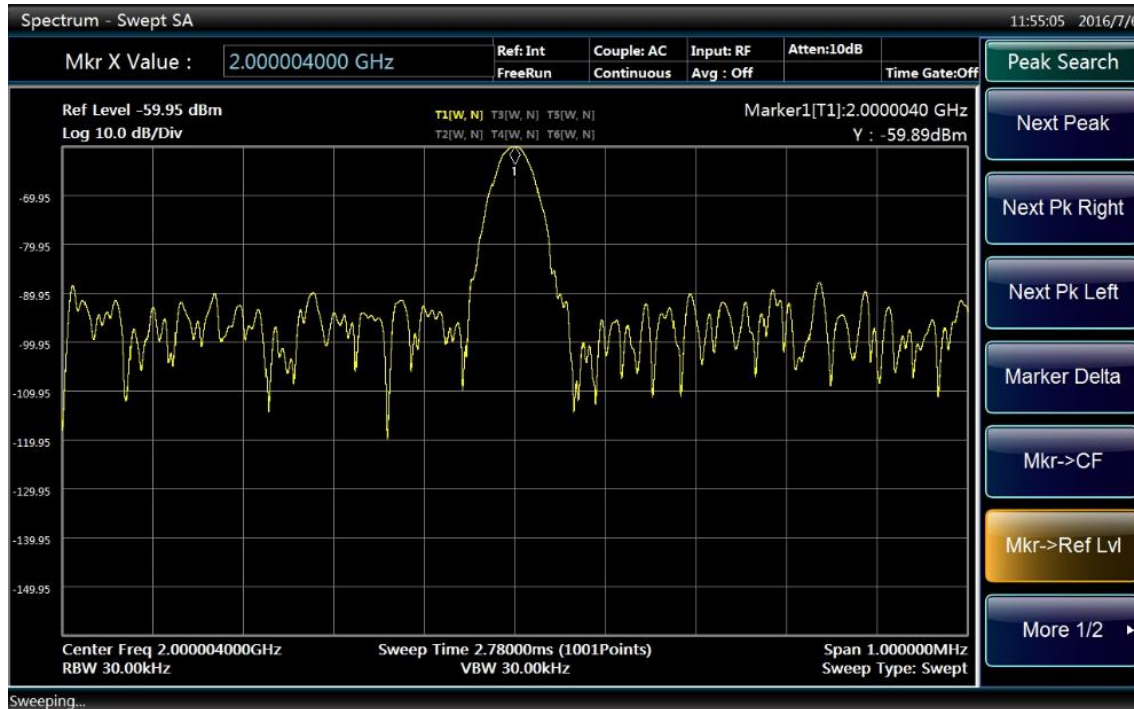

Fig. 4.22 Display interface of second harmonic amplitude
- Press [Marker → Reference Level] to adjust harmonic peak to the reference level with second harmonic amplitude as shown in Fig. 4.22.